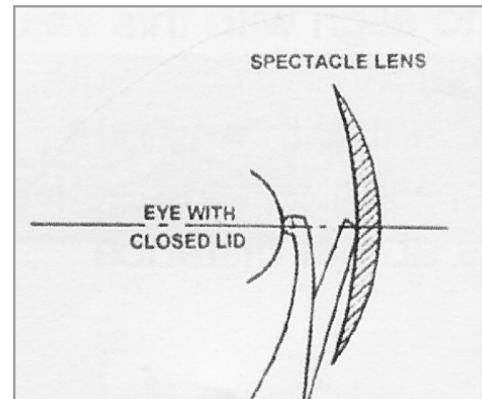

Figure 2 - Distometer gauge measures distance from rear lens to eye lid.
3. Position the gauge as shown in Fig 2 so that the rear anvil lightly touches the closed eye lid at the center of the cornea.
Figure 2 shows the Distometer gauge in use on the right eye. To use the gauge on the left eye, turn it over and use in the opposite direction.